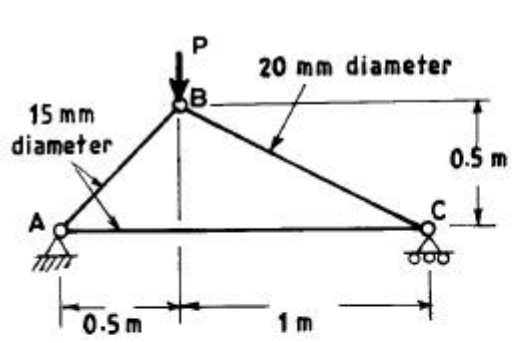

fig. 1
1. Determine the maximum allowable load P that may be applied to the aluminum frame shown in Fig. 1. Use Euler's formula and take factor of safety as 2.5. $E = 70$ GPa.